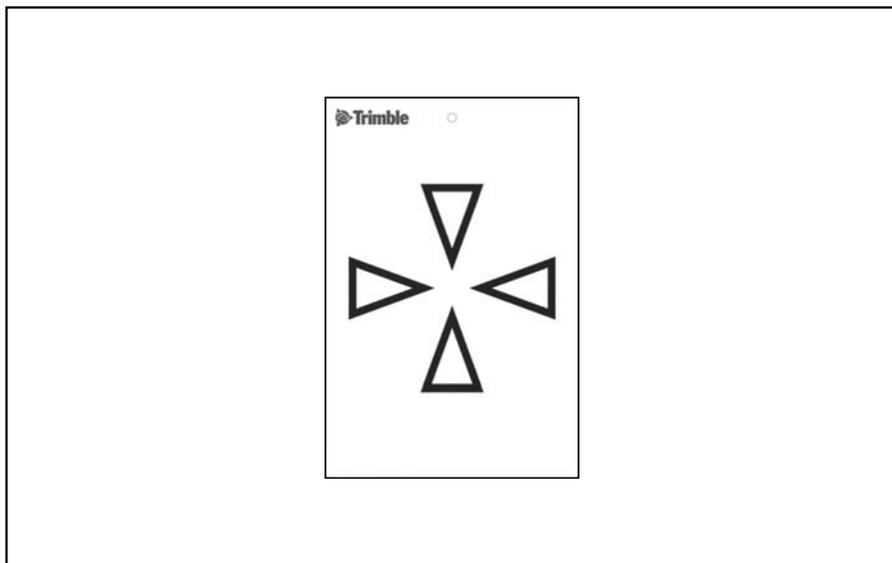

Figure 4.19 Laser adjustment plate
1. Setup the Laser adjustment plate 25–50 meter away, facing the Trimble SPSx20 Total Station, see Figure 4.19.